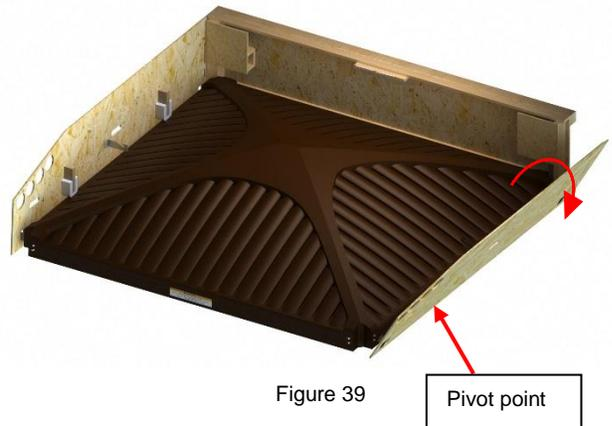

Figure 39
21) Pivot the side panels by gently prying them outward; lay the panels down on the ground. There is one panel per side. (Figure 39)